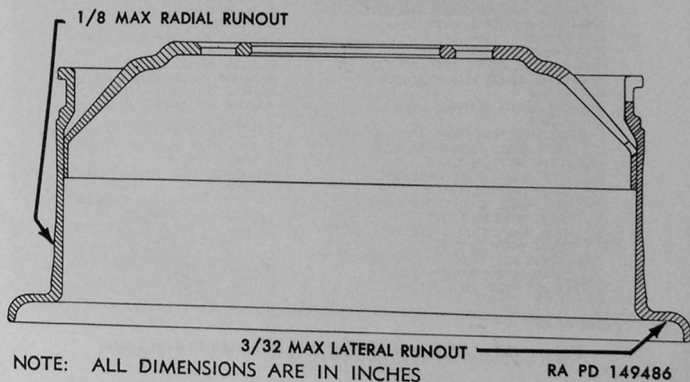

Figure 181. Wheel (disk and rim assembly) showing checking points.
fixture and check for lateral runout (wobble) and for radial runout (out-of-round) at points shown in figure 181. If wheel is only slightly distorted or if rivets are loose, wheel can be repaired (*b* below). If badly damaged, replace with new part.
*b. Repair.*—If adequate equipment is available, wheels that are slightly distorted can be straightened. Lateral and radial runout must not exceed maximum limits shown in figure 181. Tighten or replace any loose rivets attaching disk to rim.